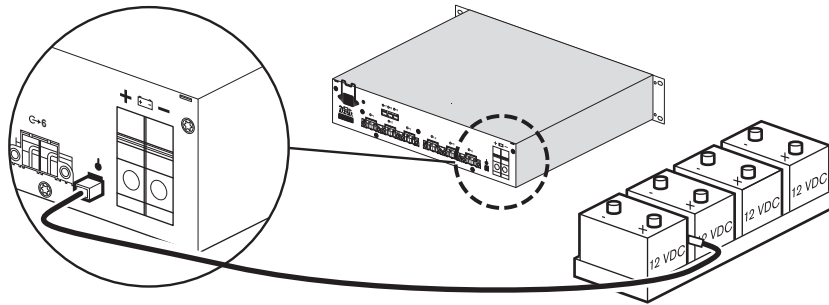

Figure 6.6 Connect the temperature sensor
2. Attach the sensor body close to the battery, with good thermal coupling in order to get the correct temperature information. E.g. connect the sensor to the battery tray, or place it between the batteries. See *Figure 6.6*.